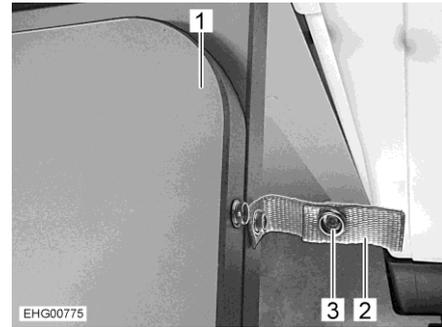

Fig. 54 Securing strap
- Release the snap fastener (Fig. 54,3) of the safety clip (Fig. 54,2).
- Fold out the table top extension (Fig. 54,1).
- Fold up the table top extension (Fig. 54,1).
- Secure the table top extension with the safety clip (Fig. 54,2).